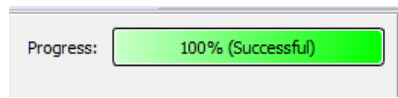

Fig. 17: Progress bar after programming the device
- H.7) Finally, click on **Start** to program the device. After a successful programming operation, the progress bar should be seen as Fig. 17.